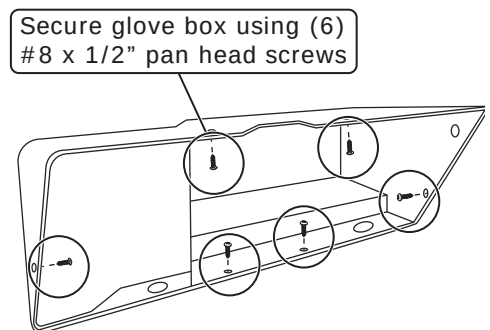

Figure 1
4. Secure the glove box to the dash using (6) #8 x 1/2" pan head screws (See Figure 1, below).
5. Install the glove box door latch using the (2) OEM screws (See Photo 5, below).
6. Install the glove box door using the (3) OEM screws ((2) for the lower mounts and one for the door cable (See Photo 6, below)).